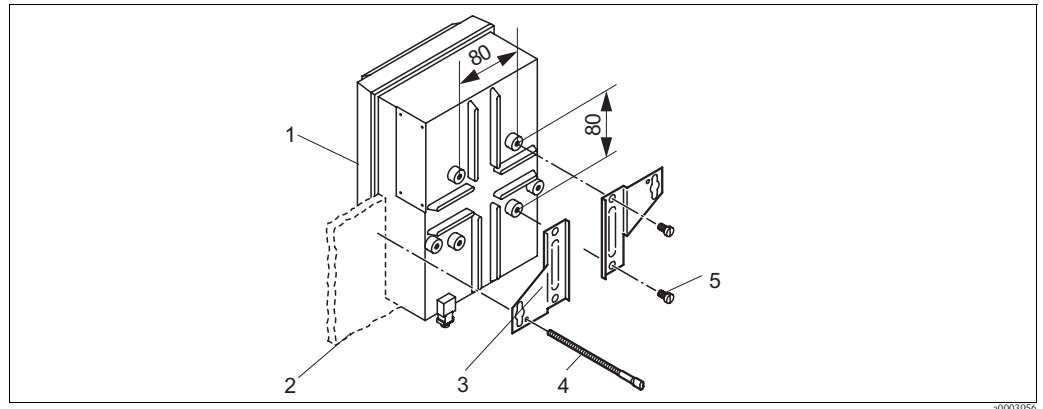

Fig. 12: Panel mounting
2. Unscrew the top housing section (item 1).
3. Secure the securing plates (item 3) to the transmitter housing base using the securing screws (item 5) in accordance with Fig. 12.
4. Secure the transmitter to the panel (item 2) using the clamping screws (item 4).